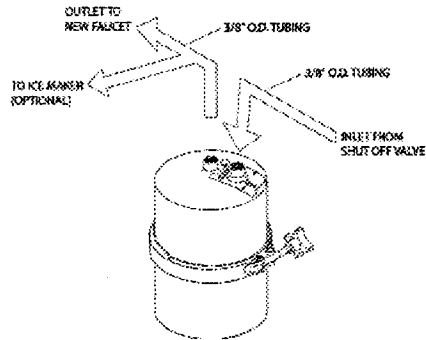

Figure 4
- Use 1/4 inch OD tubing (not supplied) to connect the inlet shut off valve to the inlet of the filter housing (see figure 4). To secure the connection, press the tubing in firmly.
- Use 3/8 inch OD tubing (not supplied) to connect the new faucet to the outlet of the filter housing (see figure 4). To secure the connection, press the tubing in firmly.
- For an ice maker connection, install a tee (not supplied) between the outlet and the new faucet. Connect the tubing to the ice maker (see figure 4).